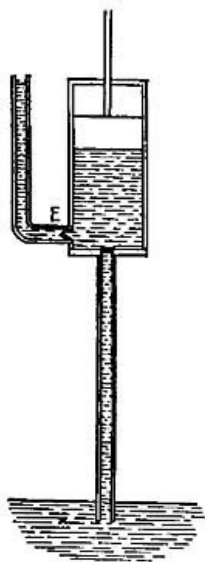

FIG. 134.—Force pump.
**184. The Force Pump.** In the common pump, water cannot not be raised higher than the spout. In many cases it is desirable to force water considerably above the pump itself, as, for instance, in the fire hose; under such circumstances a type of pump is employed which has received the name of *force pump*. This differs but little from the ordinary lift pump, as a reference to Figure 134 will show. Here both valves are placed in the cylinder, and the piston is solid, but the principle is the same as in the lifting pump.